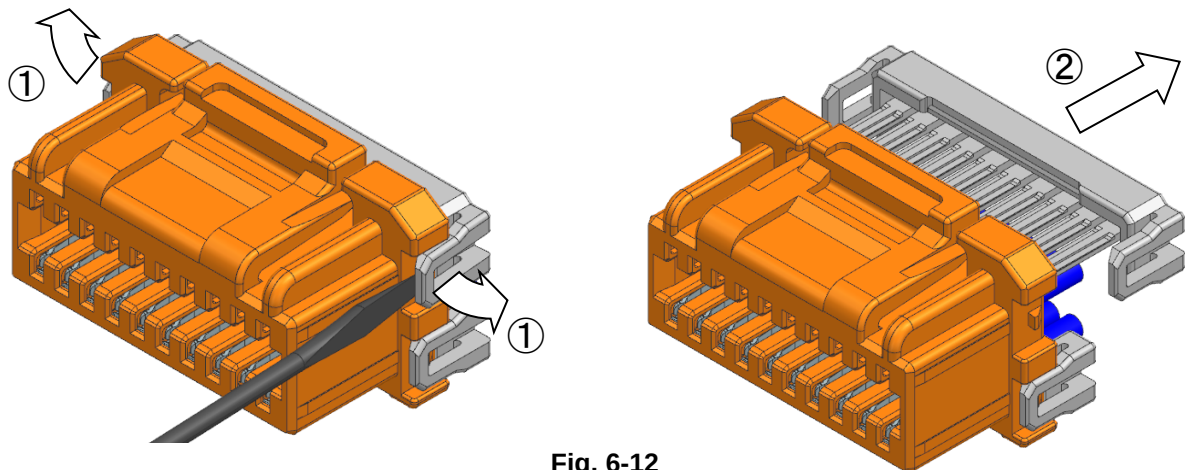

Fig. 6-12
When removing an inserted retainer, ① lift the lock at both ends of the retainer using a flat blade screwdriver, and ② pull out the retainer. However, if the lock is widely lifted, plastic deformation will occur. The deformed locking part may not satisfy the specified strength due to the reduced terminal holding force. Therefore, **do not reuse removed retainer, use new retainer.** **(Fig. 6-12)**